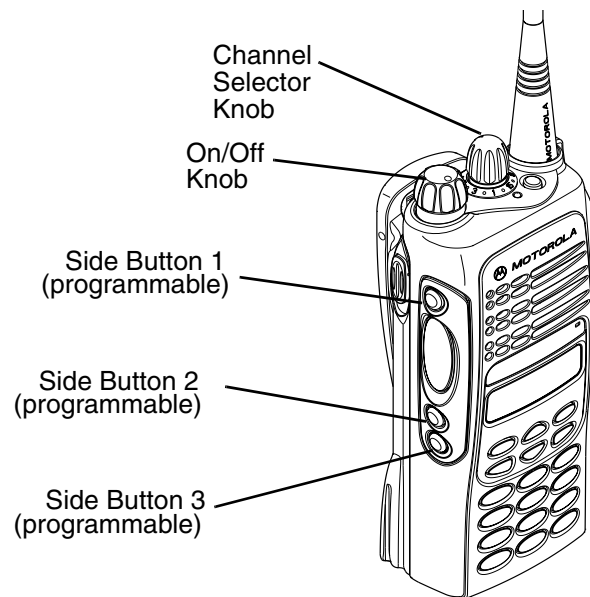

Figure 4-1: Radio Side Button Location
2. Within ten seconds after the self test is complete, press 'side button 2', shown in Figure 4-1 on page 4-3, five times in succession.
2. Within ten seconds after the self test is complete, press 'side button 2' (Figure 4-1) five times in succession.
The radio channels and test frequencies are listed in Table 4-4. The channels are selected using the channel selector switch located on top of the radio, as shown in Figure 4-1 on page 4-3. The test environment and channel spacing for any particular frequency is selected using 'side buttons 1 and 2', as listed in Table 4-1 on page 4-4 and Table 4-2 on page 4-5. The display radio shows the selected parameters on the radio display, and sounds the corresponding number of beeps and tones listed in Table 4-1 and Table 4-1. The non-display radio only sounds the beeps and tones.